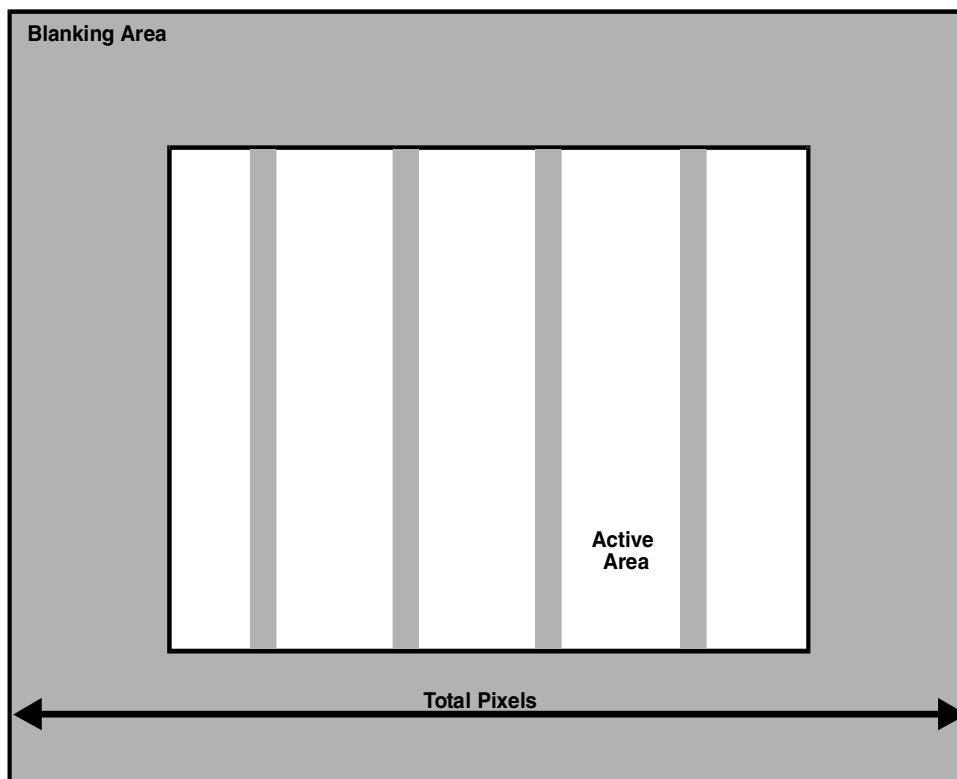

Figure 5 — Incorrect Total Pixels
In Figure 5, the total pixels are adjusted incorrectly. There are several ways to set the total pixels. It is best to set the total pixels according to the input signal specifications. Otherwise, if the input pixel clock is known, the input total pixels may be calculated using one of the methods shown below:
- Adjust the input total pixels to minimize any faint vertical lines that may be seen within the image, as shown below in Figure 5.
2. Set input total pixels to minimize faint vertical lines (see Figure 5).